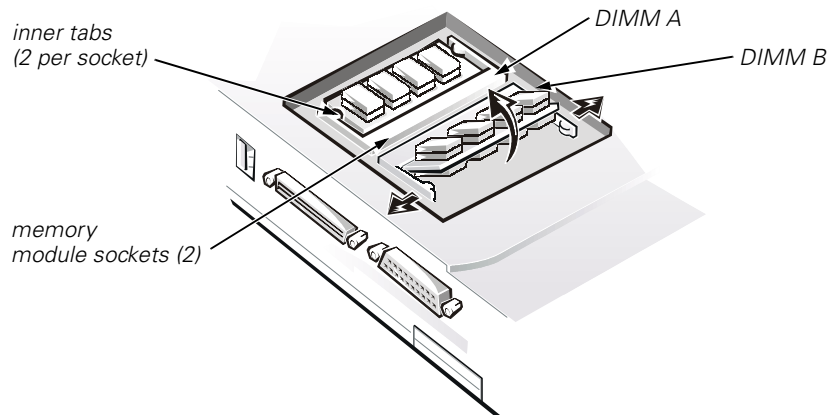

Figure 8. Memory Module Removal
3. To release a memory module from its socket, carefully spread apart the inner tabs of the memory module socket just far enough for the memory module to disengage from the socket. The module should pop up slightly (see Figure 8).